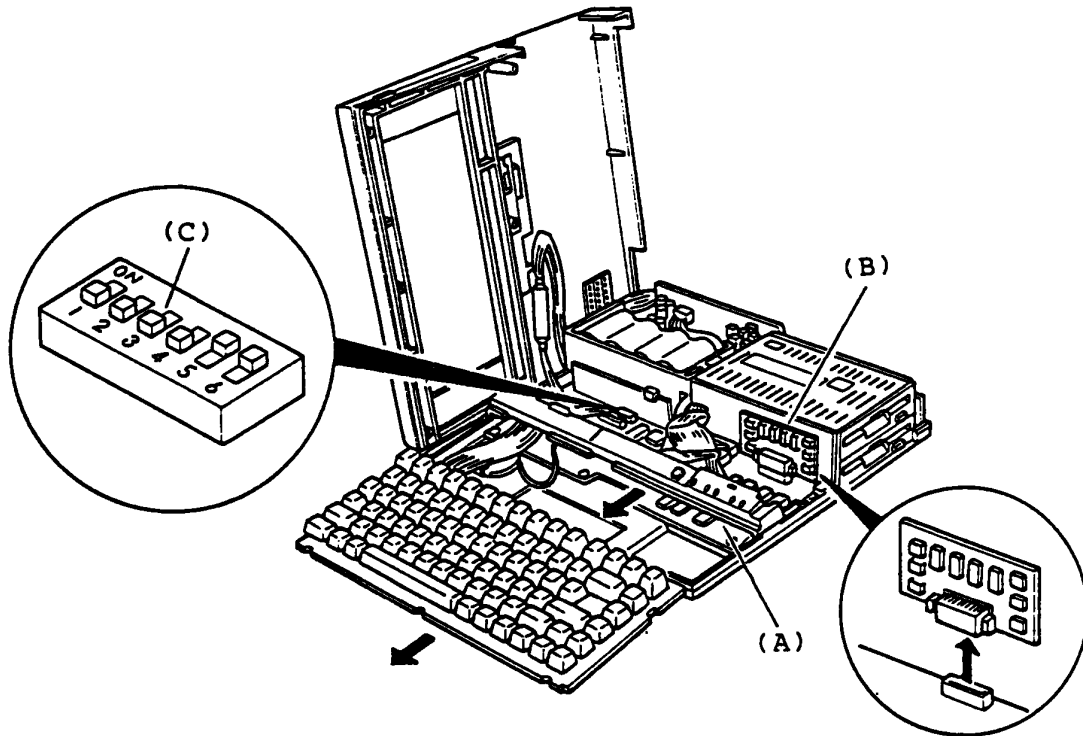

Figure 5-24 Memory Card Removal
3. Lift up the Keyboard Unit and Indicator plate, put it front of the System PCB (A) as shown in the figure 5-24.
4. Pull out the Memory Card (B) from the System PCB (A).
5. If the memory size of the T1100 PLUS System have been changed you must change the setting of configuration DIP switch (C).